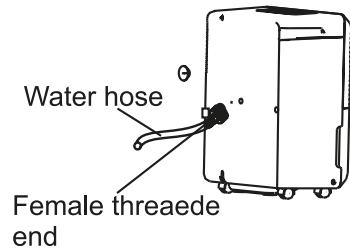

FIG. 10
- Install the female threaded end of the water hose into the adaptor A. (See Fig. 10), then lead the water hose to the floor drain or a suitable drainage facility.